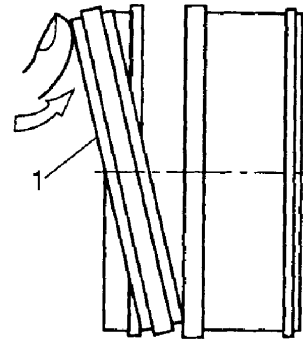

Figure 27
12. Insert one end of backup ring into its groove. See Figure 27. Use your hand to slide other end of ring into groove.